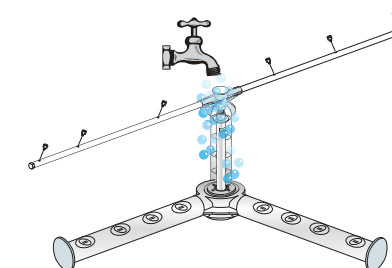

Fig. 4
- Remove the arms by loosening the fixed screws and thoroughly clean them and the nozzles under the running water (Fig.4).